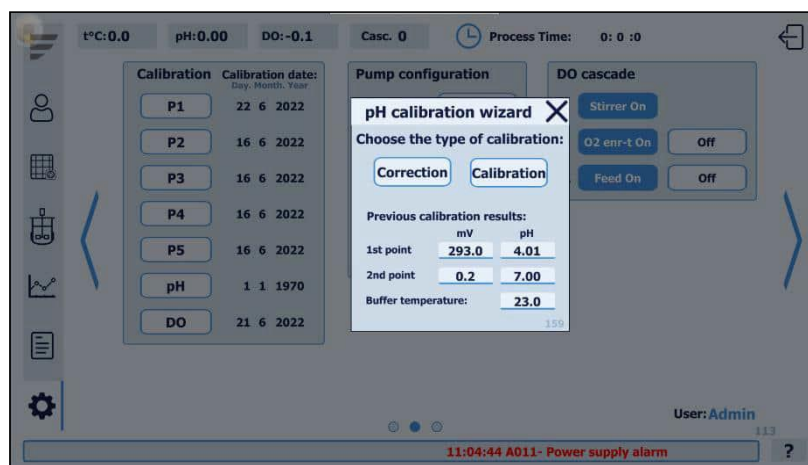

Figure 11.3. pH Calibration wizard
- 1) By using the access path MENU → CALIBR. → pH, open the pH calibration wizard (see Figure 11.3);